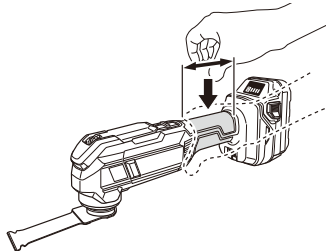

Fig. 1
- 1. **Always hold the tool firmly with one hand on housing (Fig. 1). Do not touch the metal part.**